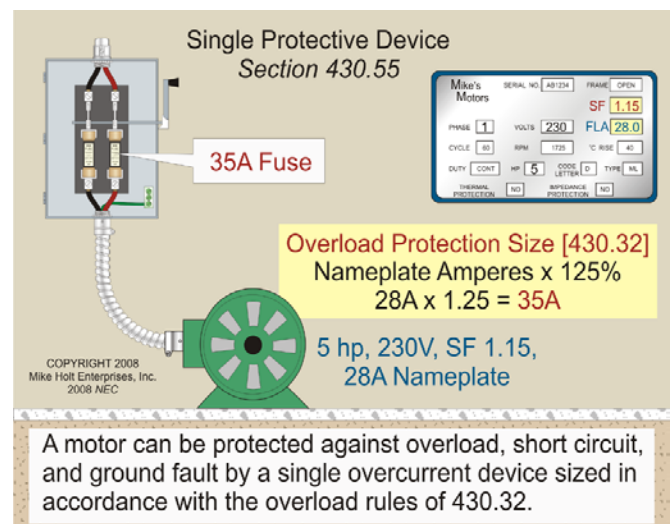

Figure 7-23
**Question:** What size dual-element fuse is permitted to protect a 5 hp, 230V, single-phase motor with a service factor of 1.15 and a nameplate current rating of 28A from overloads as well as short-circuits and ground-faults? **Figure 7-23**